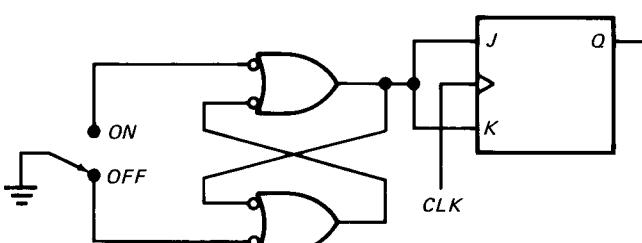

Fig. 7-22
- 7-8. The clock has a frequency of 1 MHz in Fig. 7-22. With the switch in the OFF position, what is the frequency of the Q output? If the switch is thrown to the ON position, what is the frequency of the Q output?